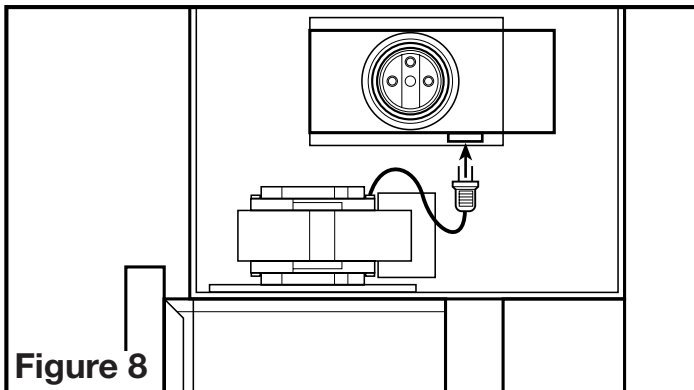

Figure 8
1. Insert plug from fan into the receptacle located under the light socket (**Figure 8**).